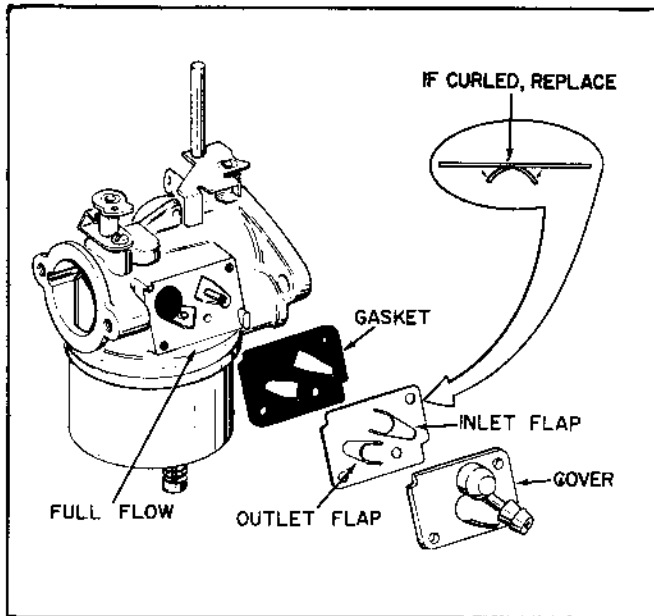

Figure 7-8
(5) a. The flap valve goes between the cover and gasket. See Figure 7-8.
b. Notches on the carburetor body insure that the gasket, valve and cover can only be fit to the body correctly. See Figure 7-8.
(6) Clean or replace the strainer periodically.
- (1) If the engine is not running properly, make normal idle and high speed screw adjustments.
- (2) Check fuel supply and tank position. Fill with proper, clean fuel.
- (3) Check fuel tank valve and make sure it's open.
- (4) Check fuel pick-up tube for cracks and flexibility.
- (5) Remove carburetor to check for pulsation passage alignment.
- (6) Check condition of pump element.
- (7) Check for air leaks at gasket surface.
- (8) If flaps are curled (Figure 7-8), replace.